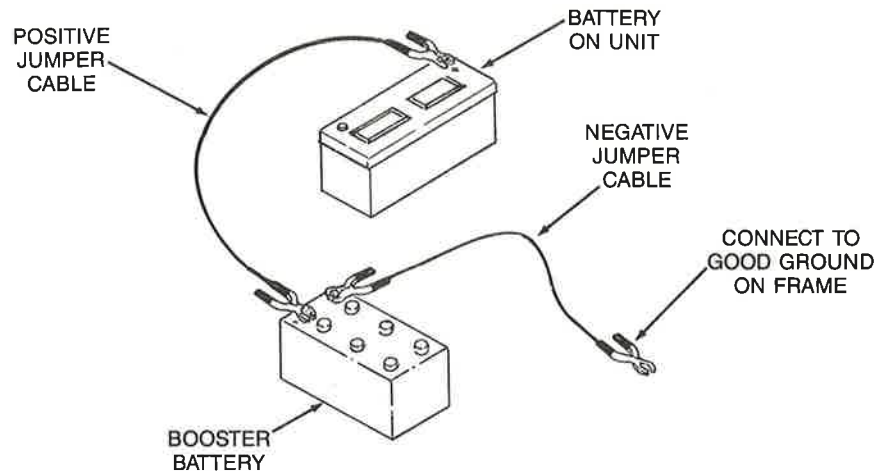

Figure 9. Connection for Booster Battery
5. Connect one jumper cable from the (+) positive terminal of the booster battery to the (+) positive terminal of the discharged battery. See Figure 9.